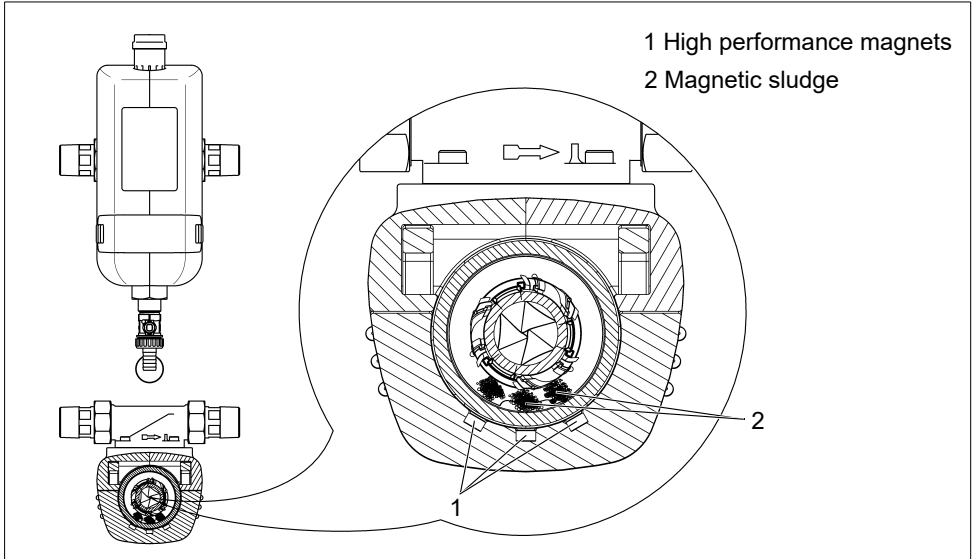

Fig. 6: Magnetic separator in operation
With its three high efficiency magnets (1) the magnetite filter ensures that magnetic sludge (2) is trapped and then physically removed from the system by regular rinsing (see fig. 6).